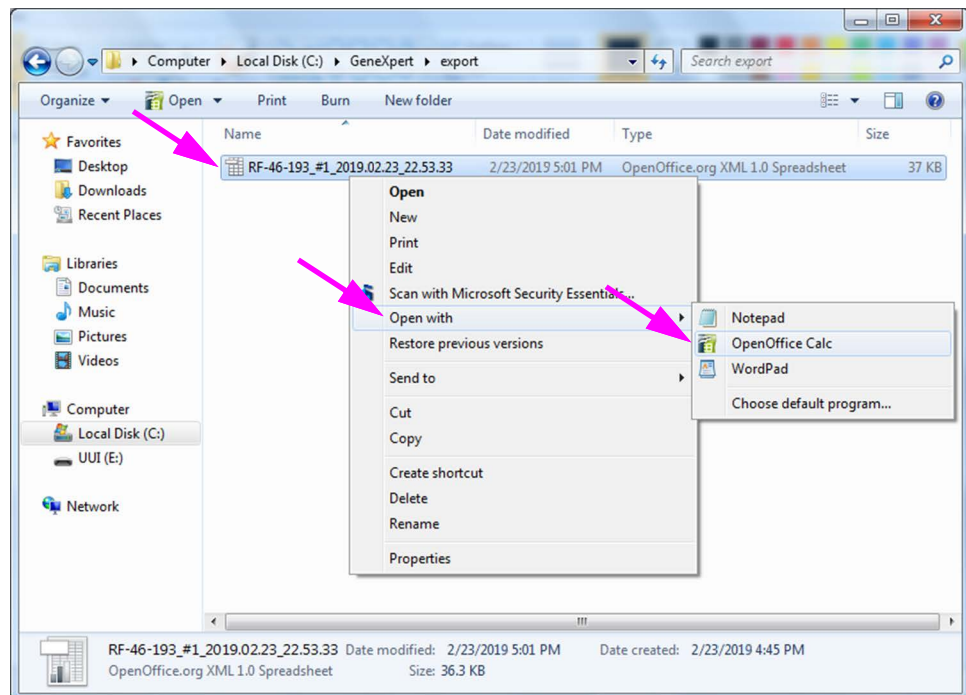

Figure D-1. Opening a .csv File to Configure AOO (Example)
1. In the GeneXpert folder on your system, navigate to the **Export** folder. Right click on the .csv file you want to open. When the drop-down menu appears, click **Open with** and select **OpenOffice Calc**. See Figure D-1.